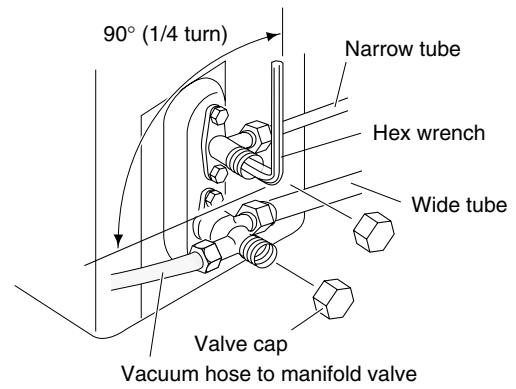

Fig. 58
- (5) With the vacuum pump still running, close the “Lo” knob of the manifold valve. Then stop the vacuum pump.
- (6) With the accessory hex wrench, turn the valve stem on the narrow tube service valve counter-clockwise by 90 degrees (1/4 turn) for 10 seconds, and then turn the stem clockwise to close it again. (Fig. 58)